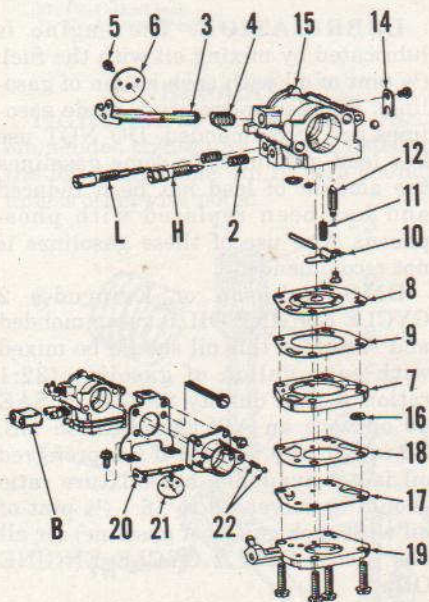
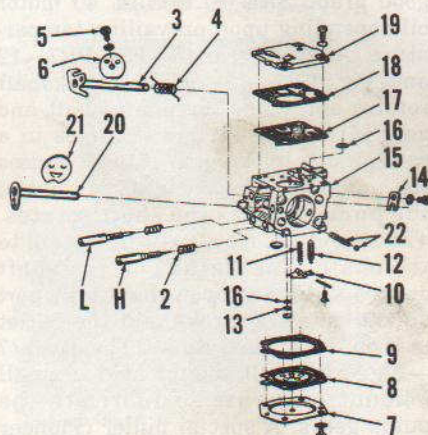
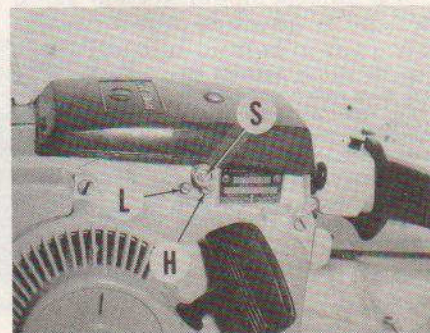

Fig. PR7-1—Exploded view of the OMC carburetor used on some models. The low speed mixture needle is shown at (L) and high speed mixture needle at (H).
Fig. PR7-2—Exploded view of Tillotson HS carburetor used on late models. Refer to Fig. PR7-1 for legend except for retaining ring (13).
Fig. PR7-4—View showing location of the idle speed stop screw (S), low speed mixture needle (L) and high speed mixture needle (H).
**CARBURETOR.** An OMC diaphragm carburetor (Fig. PR7-1) was originally used on 3071 models before serial number 696730. These early models were also equipped with a six reed valve assembly (Fig. PR7-3). A Tillotson HS-116A carburetor (Fig. PR7-2) is used on late models (series number 696730 and up).
Initial setting for the mixture needles on OMC carburetors should be 1/4 to 1/2 turns open for the high speed needle (H—Fig. PR7-4) and 1 1/4 turns open for the low speed needle (L). Initial setting for the mixture needles on Tillotson carburetors should be 3/8 turns open for the high speed needle (H) and 1 1/4 turns open for the low speed needle (L). The idle speed stop screw (S) should be adjusted so that the clutch will disengage and chain will not move with the engine idling. Use "Loctite" on threads of screw (5—Fig. PR7-1 or Fig. PR7-2)
to prevent screw from loosening. Screens (13 and 16) can be renewed or cleaned. A felt filter (5—Fig. PR7-5) is located on the fuel pick up (4) inside the fuel tank. Sealer block (B—Fig. PR7-1) is used with both types of carburetors. Be sure that sealer is in good condition and correctly located to prevent dirt from entering the engine around the mixture needles. The fuel tank (3—Fig. PR7-5) is located between the two halves of the crankcase (2 & 10).